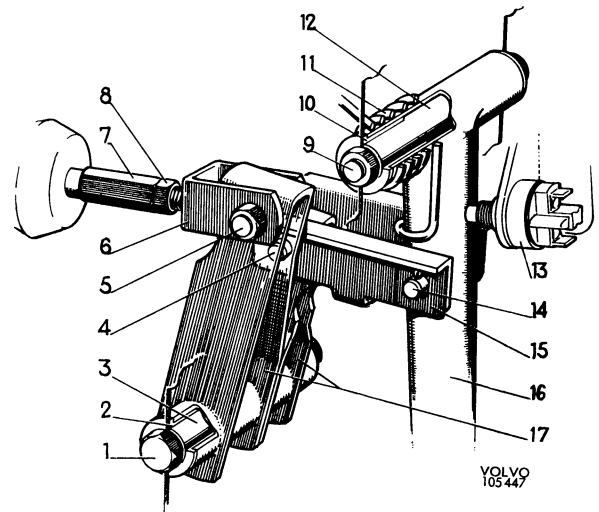

Fig. 5-69. Brake pedal suspension
2. Remove the split pin bolt (14, Fig. 5-69) and unhook the return spring (11).
3. Remove the bolt (9) and pull forward the pedal.